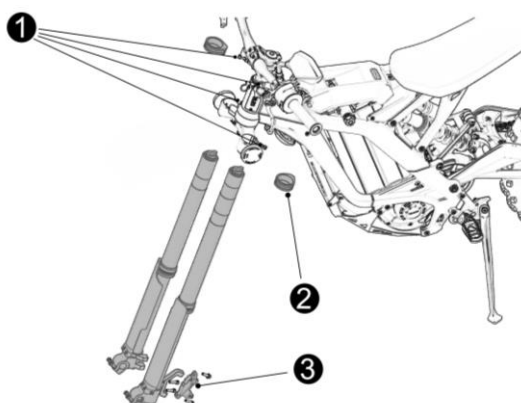

Fig 15
6.4.5 Dismount front shock absorber (see Fig 15)
- Dismount bolts of front brake caliper and take down front brake caliper ③
- loosen fastening bolts of front shock absorber of front steering column ①, take down steering limiting gommure of shock absorber ② and take down front left and right shock absorbers